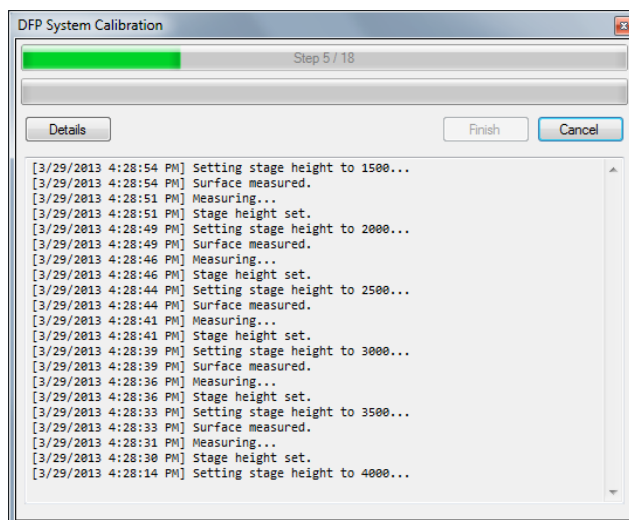

Figure 3.3 Calibration Progress Window
3. Press the Calibrate button on the bottom left of the Camera Window. The system will jog the optical flat down and then back up using the sample support stage. Measurements are taken along the way and a calibration profile including lens distortion is created. A dialog shows calibration progress (**Figure 3.3**). When the calibration is complete a second dialog will confirm if the user wants to accept the new calibration results.